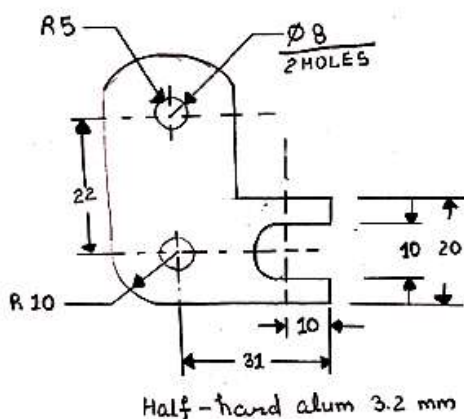

Figure 3
- Q.8 Design either a compound or progressive die to blank the work piece shown in figure 3. 16